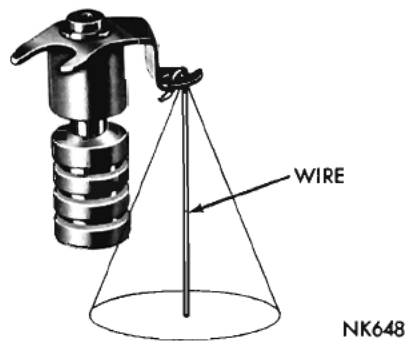

Fig. 11—Step-Up Piston Wire Free Play
(7) Before installing the step-up piston, be sure the step-up rod is able to move freely each side of the vertical position, as shown in (Fig. 11). The step-up rod must be straight and smooth.